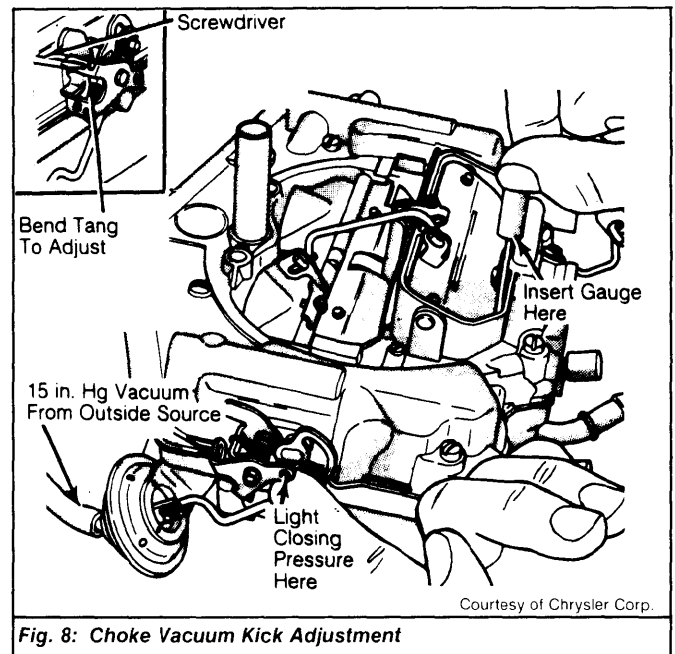

Fig. 8: Choke Vacuum Kick Adjustment
1) Open throttle and close choke. Now close throttle to trap fast idle cam at closed choke position. See Fig. 8.